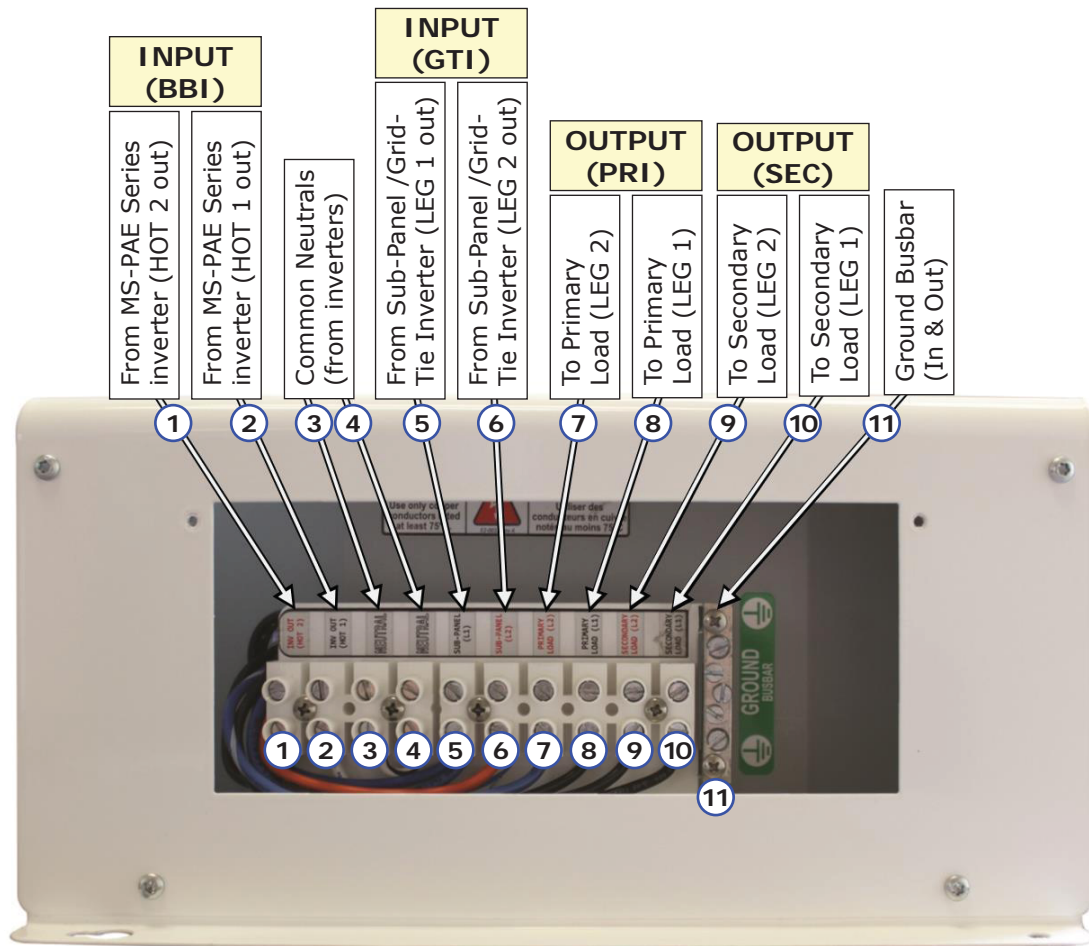
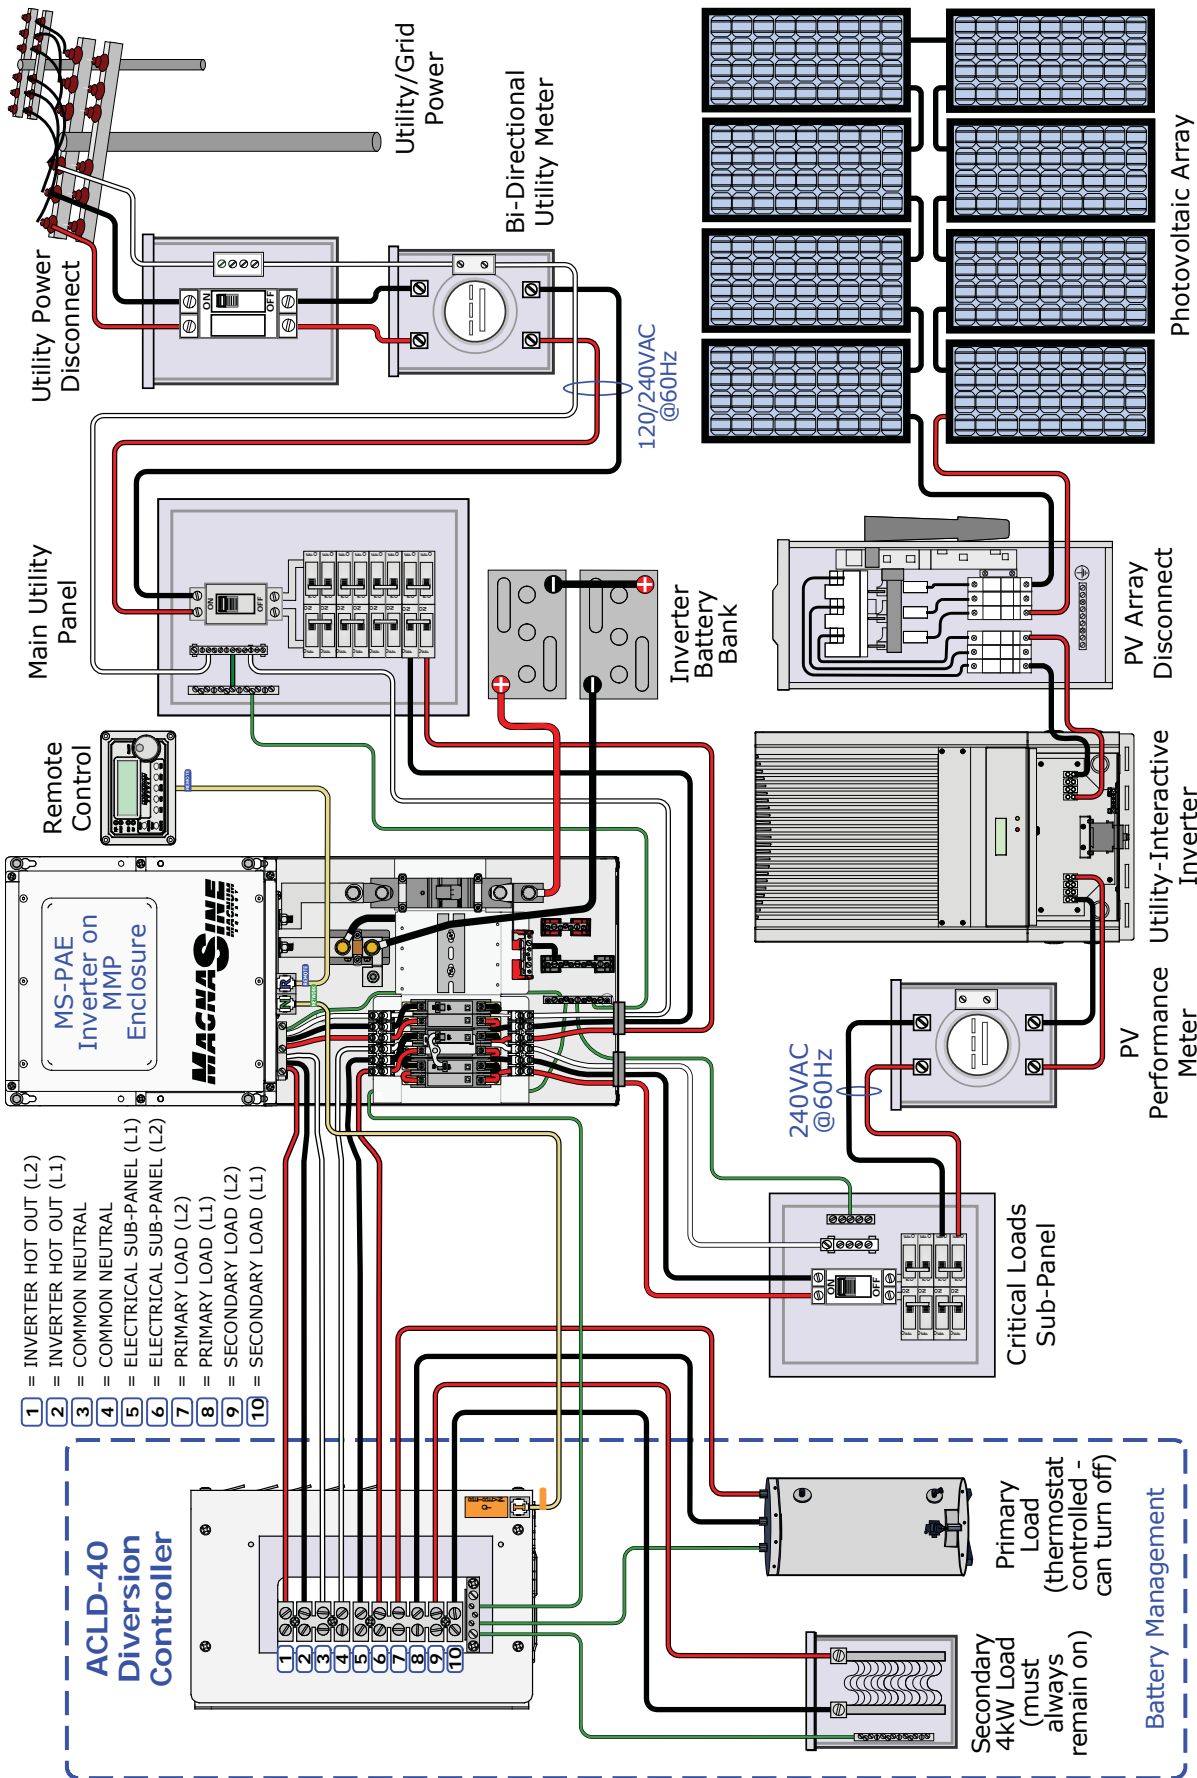

Figure 2-5, ACLD Terminal Block
Figure 2-6, ACLD System Wiring
As shown in Figure 2-5, the ACLD provides two input circuits, the Battery Based Inverter (BBI) and Grid-Tie Inverter (GTI) input circuits. As part of the installation, overcurrent protection rated to handle a maximum 30 amps must be provided from the source to these two input circuits. A dual-pole, 30 amp, 240-volt branch rated circuit breaker to protect both L1 and L2 circuits for each input circuit is required. Referring to Figure 2-6, the BBI input to the ACLD (terminals 1 and 2) is protected from a 30A breaker from the main utility panel; and the GTI input to the ACLD (terminals 5 and 6) is protected using the 30A breaker in the MMP. Note: If the MMP enclosure is not used, an external panel with a 30A breaker must be provided to protect the GTI input from the Grid-Tie Inverter.
The ACLD controller has a ten-pole terminal block and a ground busbar to permanently connect the BBI/Battery Based Inverter (e.g., MS-PAE Series), the GTI/Grid-Tie Inverter and any primary or secondary loads (see Figure 2-5). To access and view the terminal block and ground busbar, remove the two Phillips screws holding the AC wiring access cover plate (see Figure 1-5, Item 9). Each connection on the terminal block is rated to accept one #14 to #6 AWG (2.1 to 13.4 mm2) CU stranded wire, or two #12 AWG (3.3 mm2) CU stranded wires. Each connection uses a M3.5 slotted head screw, and the maximum tightening torque is 16 in. lbs. (1.8 N-m).
A diagram of the wiring for the ACLD controller is shown in Figure 2-6, and is provided to assist you or your system installer. Due to the variety of applications and differences in local and national electrical codes, this wiring diagram should be used as a general guideline only. It is not intended to override or restrict any national or local electrical codes; and, this diagram should not be the determining factor as to whether the installation is compliant, that is the responsibility of the electrician and the onsite inspector.
**Info:** Figures 2-6 and 2-7 show the ACLD wired through a MMP-30D Series enclosure. The MMP-30D Series enclosures provide the required branch-rated 30-amp circuit breaker. These enclosures also provide a full system **Inverter Bypass Switch**. This simple item provides a convenient way to isolate the ACLD and inverter from the AC loads without any re-wiring, which could save you hours of downtime—if you ever need to service your load controller or inverter.